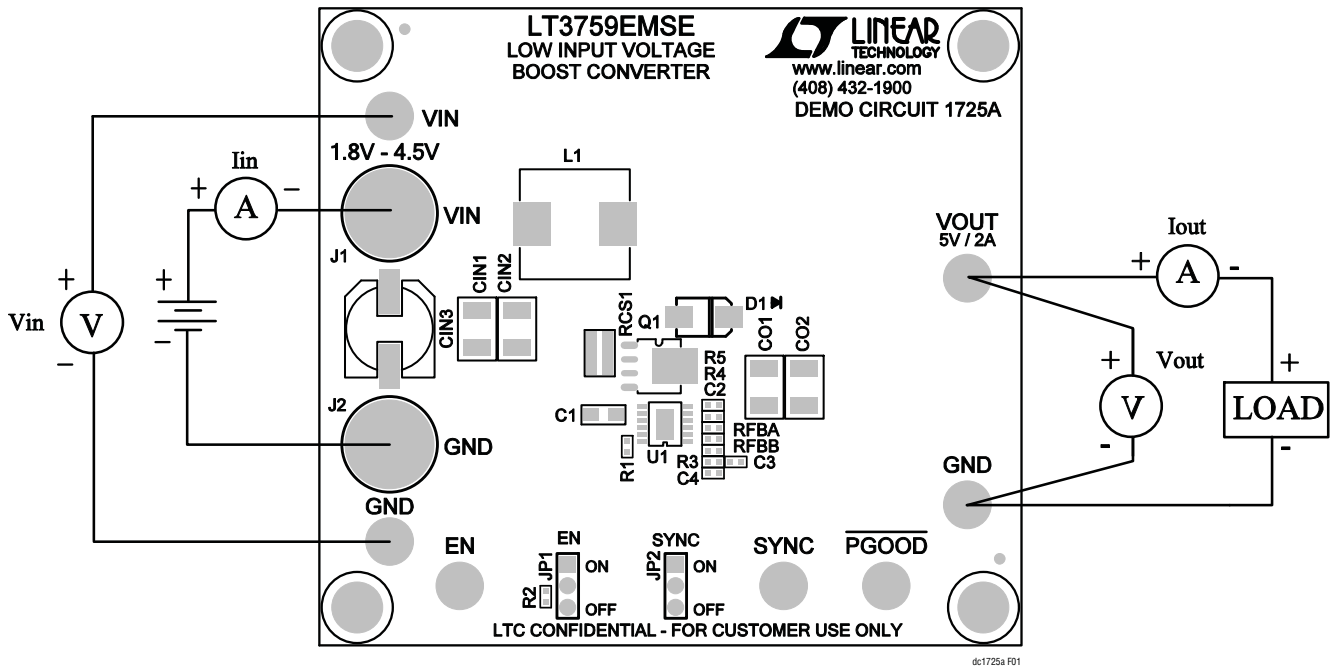

Figure 1. Proper Measurement Equipment Setup
Demo circuit 1725A is easy to set up to evaluate the performance of LT3759. Refer to Figure 1 for proper measurement equipment setup and follow the procedure below.
1. With power off, connect the input power supply, load and meters as shown in Figure 1. Preset the load to 0A, and  $V_{IN}$  supply to be 0V. Place jumpers in the following positions for a typical 5V application: